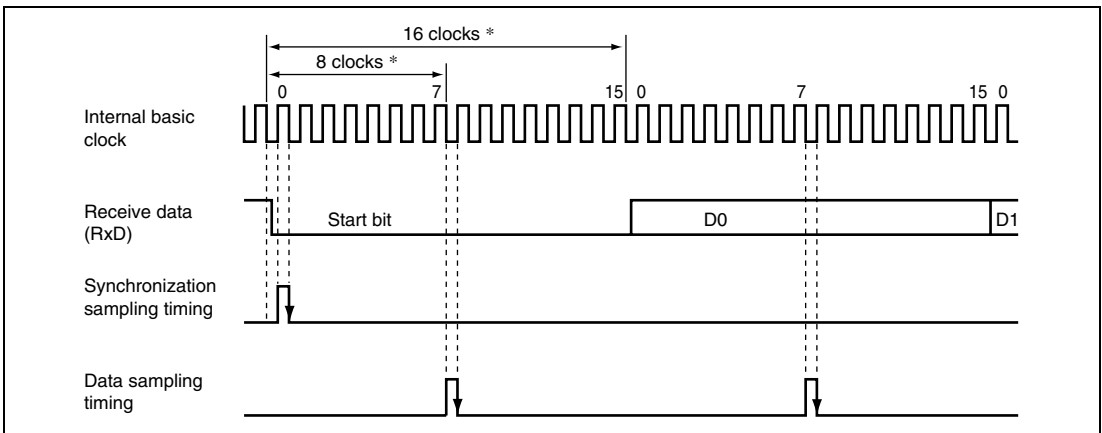

Figure 12.6 Receive Data Sampling Timing in Asynchronous Mode
In asynchronous mode, the SCI operates on a basic clock with a frequency of 16 times the transfer rate. In reception, the SCI samples the falling edge of the start bit using the basic clock, and performs internal synchronization. Receive data is latched internally at the rising edge of the 8th pulse of the basic clock as shown in Figure 12.6. Thus, the reception margin in asynchronous mode is given by formula (1) below.